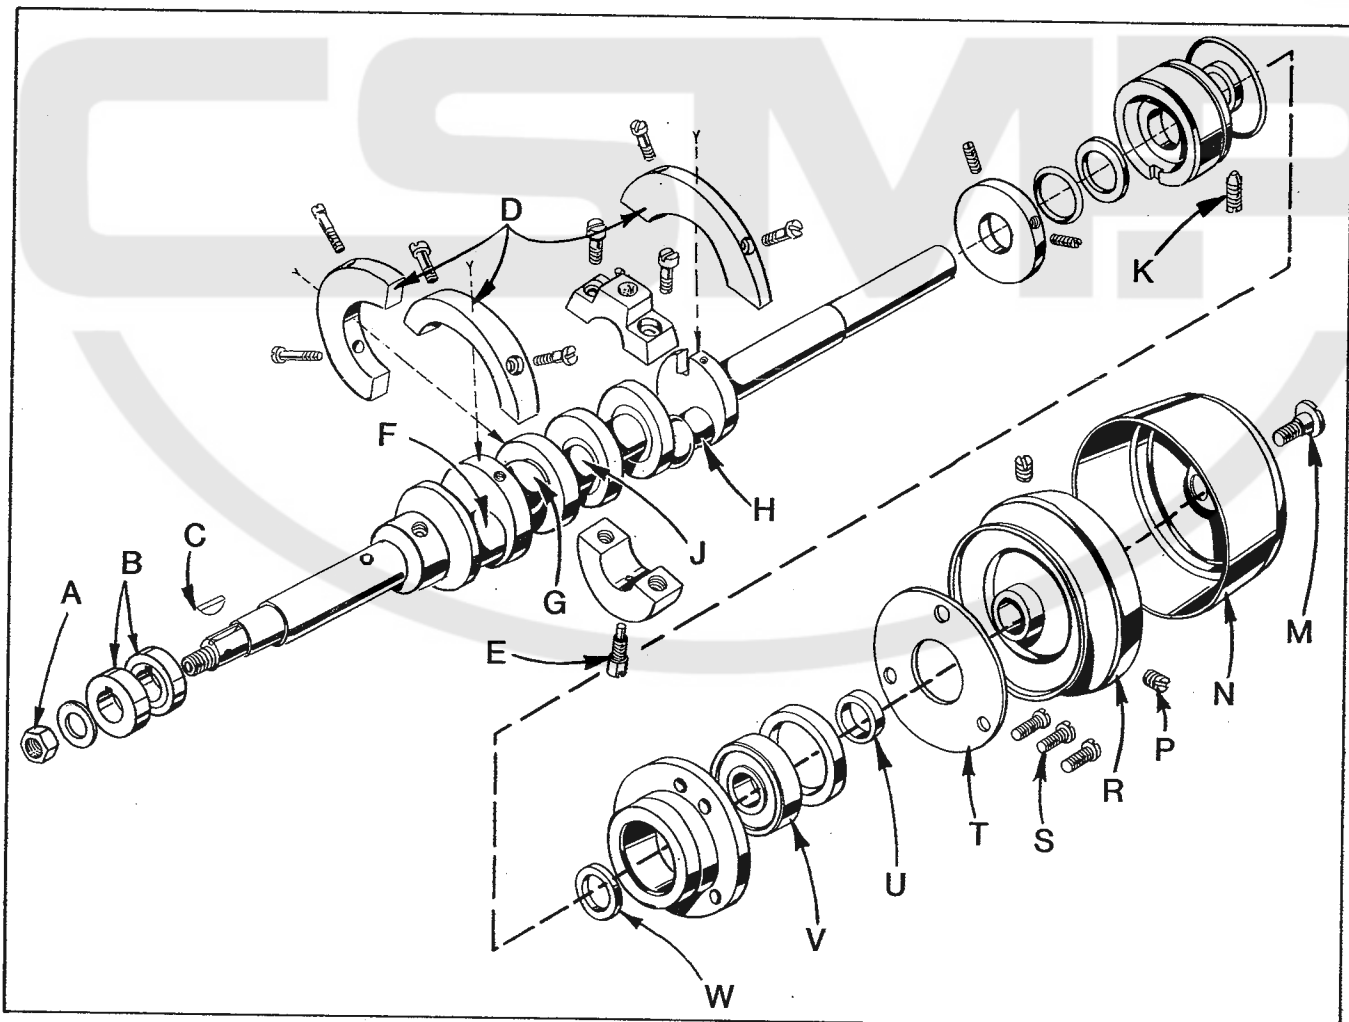
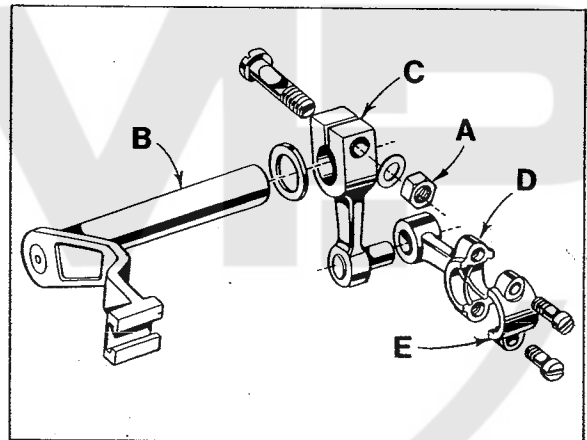

Fig. 27
Fig. 28
3. Remove feed eccentric nut (A, Fig. 27) and remove eccentrics (B).
4. Remove key (C).
5. Remove three counterweights (D). Identify these counterweights so that they will be re-assembled in the proper places.
6. Remove screw (E) which holds crankshaft split bearing. This screw is reached through bottom of bed casting.
8. Loosen clamp nut (A, Fig. 28) which holds upper knife driving arm (B). Access to clamp nut is through top cover. Draw driving arm to the left until upper knife driving lever (C) and connecting rod (D) drop, allowing removal of bearing cap (E). This is located at bearing point (J, Fig. 27) on crankshaft. Observe same precautions while re-assembling cap as described in Step 7 above.
9. Remove screw (K, Fig. 27) which holds inner right crankshaft bearing. This screw is reached through bottom of bed casting.
10. Remove screw (M); take off pulley cap (N).
11. Loosen two screws (P); remove pulley (R).
12. Remove three screws (S); take off bearing retaining plate (T); also, spacer collar (U) may be removed at this time.
14. If necessary to replace ball bearing (V), it should be pressed off shaft on an arbor press. In replacing bearing it must be pressed on carefully until it seats against ground thrust washer (W).